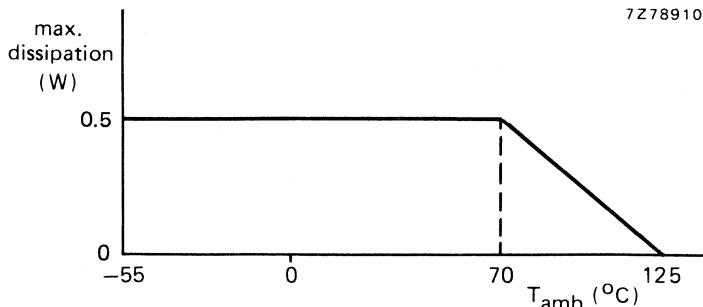

Fig. 5 Maximum dissipation as a function of ambient temperature.
- Maximum dissipation ( $P_{\text{max}}$ ) at 70 °C 0.5 W, see Fig. 5